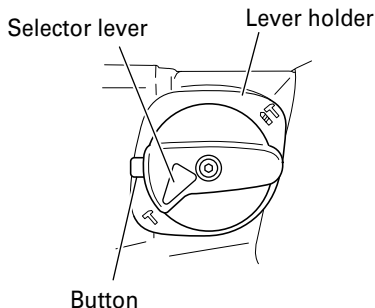

Fig. 7
(1) Switching to "hammering"
- (b) Align ▲ of the selector lever and ⬆ of the lever holder as illustrated in Fig. 7.